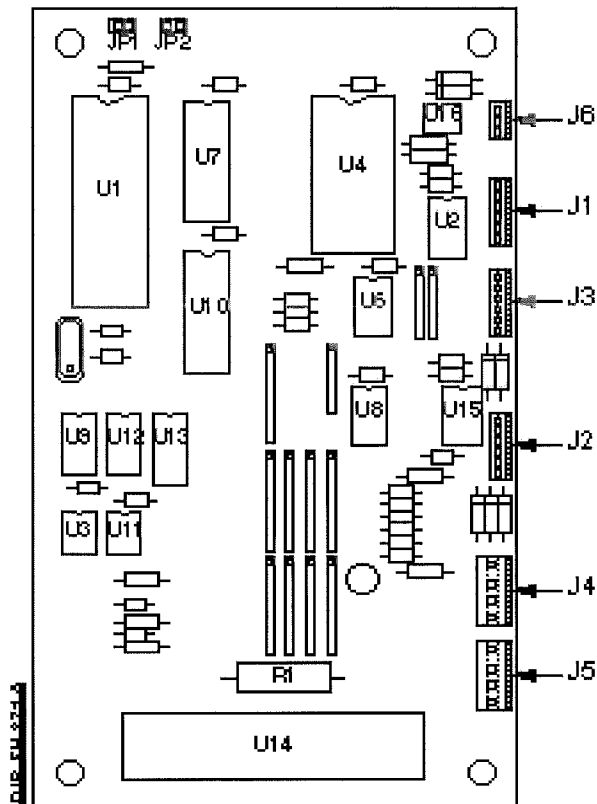

Figure 2-3 Connectors on Wayne Vac Control Board
3. Disconnect and label cable assemblies installed in the following connectors on the Wayne Vac Control board. Refer to Figure 2-3 for location of connectors on the Wayne Vac Control board.